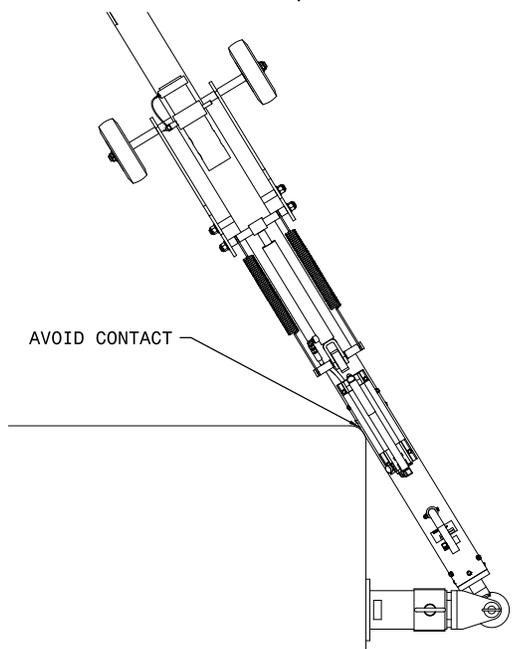

FIGURE 5
- Damage to the towbar or aircraft can result from pushing an aircraft while maintaining too sharp of an angle between the tug and the aircraft. Contact between the towbar weldment and the tug must be avoided. It is recommended that the angle between the tug and towbar not exceed 90°. **Reference Figure 5.**